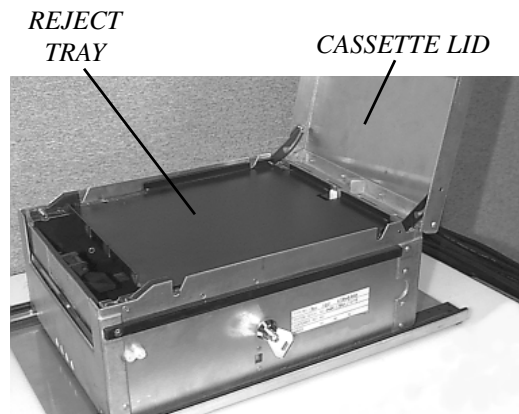

Figure 4-5. Cassette showing the reject tray.
- Lift the cassette lid to expose the reject tray as shown in Figure 4-5. Remove any rejected notes. Lift the reject tray to gain access to the currency compartment.